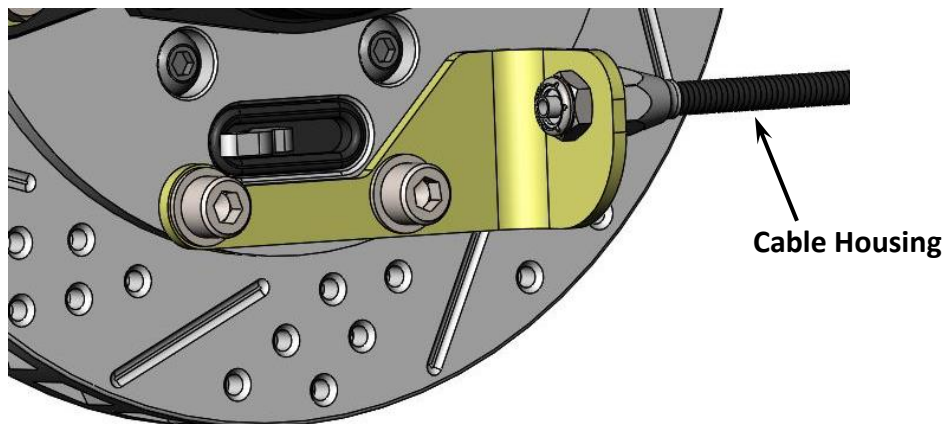

Figure 1 – Cable Attachment
2. Remove the nut from the threaded end of the cable and insert it into the bracket on the backside of the billet aluminum backing plate. Once positioned, thread the Nyloc Nut into place and snug at this point. Figure 1 below shows the cable installed into the bracket. **NOTE:** Due to inconsistency in the cable brackets, it may be necessary to slightly enlarge the hole in the bracket. This will allow the aluminum nut to set flush with the bracket.